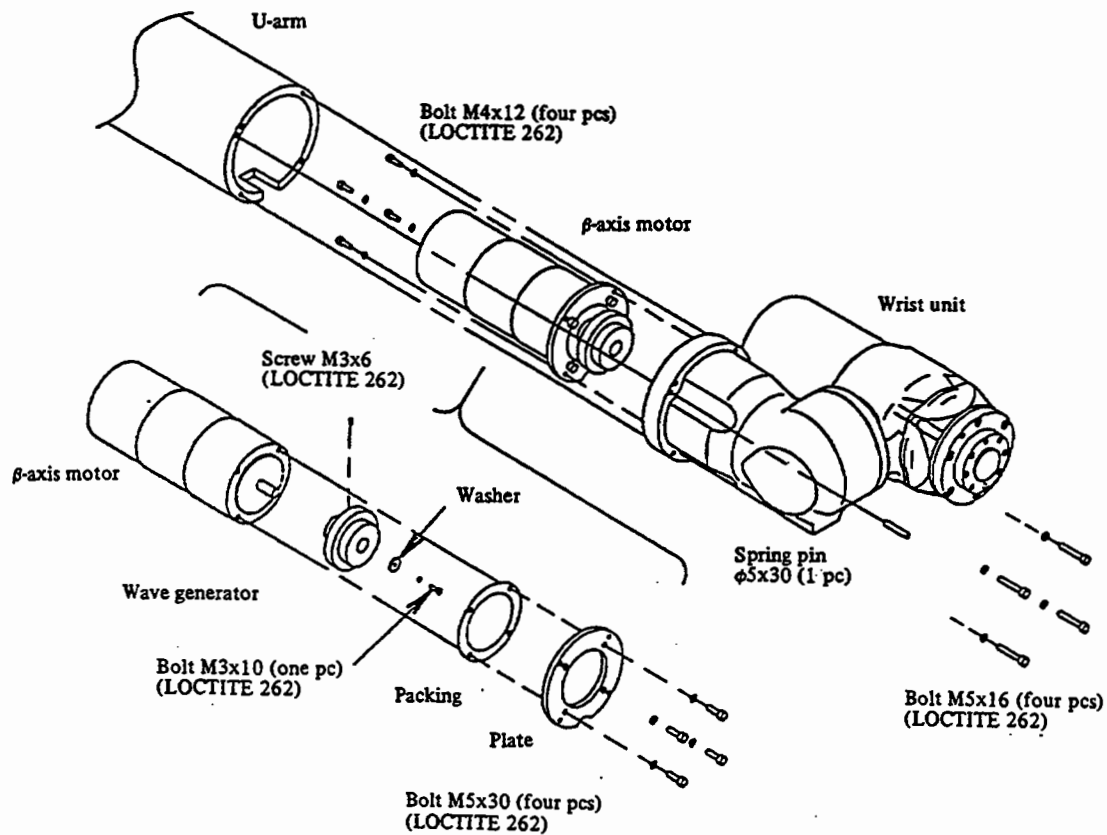

Fig. 5.8 (a) Replacing β -axis motor (S-10)
- ② Remove four M5x30 bolts and a $\phi 5$ x30 spring pin, and remove the wrist unit from the U-axis arm.
- ③ Remove four M4x12 bolts and then the motor.
- ④ Remove the plate and pull out the wave generator.
- ⑤ If only the motor is replaced, reassemble reversing above procedure after replacing the motor. Apply LOCTITE lightly to the bolts and pins removed in steps ② - ④. (See Fig. 5.8 (a))